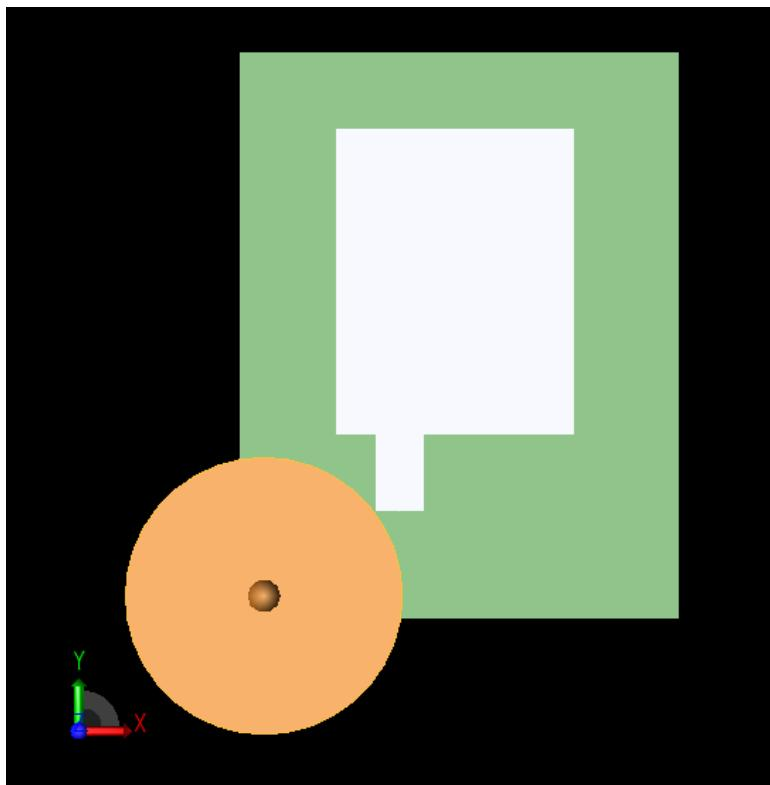

Figure 3.20: Adding a planar sensor to the project
2. Mouse over the top of the substrate in the left corner closest to the Stub (Figure 3.20). The directional arrow appears.
4. Click on the top of the substrate in the left corner closest to the Stub to place the PLANAR SENSOR (Figure 3.20).